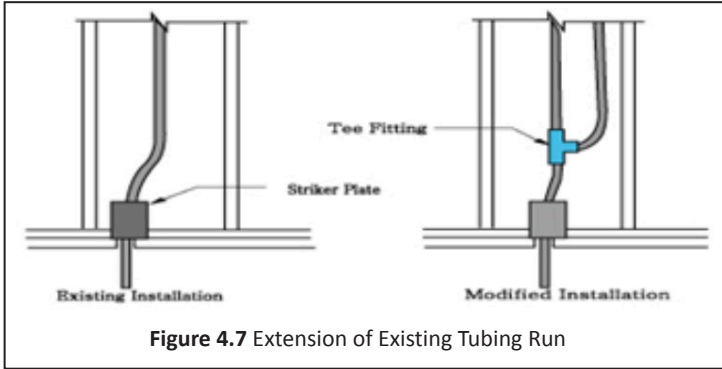

Figure 4.7 Extension of Existing Tubing Run
so long as there is sufficient capacity to supply both appliances simultaneously. If an accessible location for the modification is not available, the existing run can be modified with a tee fitting, resulting in a concealed fitting (Figure 4.7).
► DooBon Flexible CSST should never be buried directly underground. To route DooBon Flexible CSST underground, it must be protected within a non-metallic water-tight conduit that is at least 1/2" larger than the outer diameter (OD) of the CSST tubing. Fittings and joints are not permissible in such runs—the run must be one unbroken line of tubing. Runs underneath slabs must be sleeved and vented per local codes. (See Figures 4.7 and 4.8)